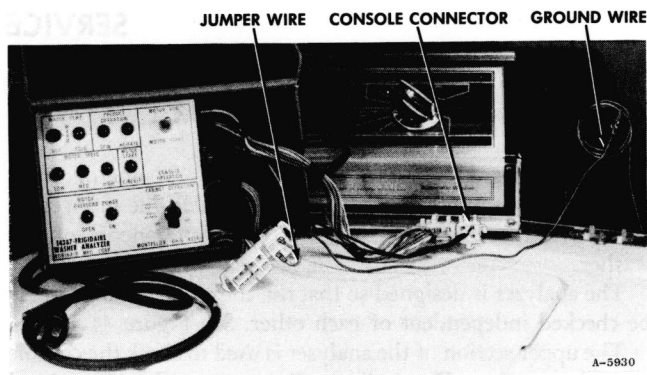

Figure 43
4. Install the "lid switch jumper wire" into the lid and out of balance terminals located in cavities 12 and 13 of the analyzer connector block, Figure 43.